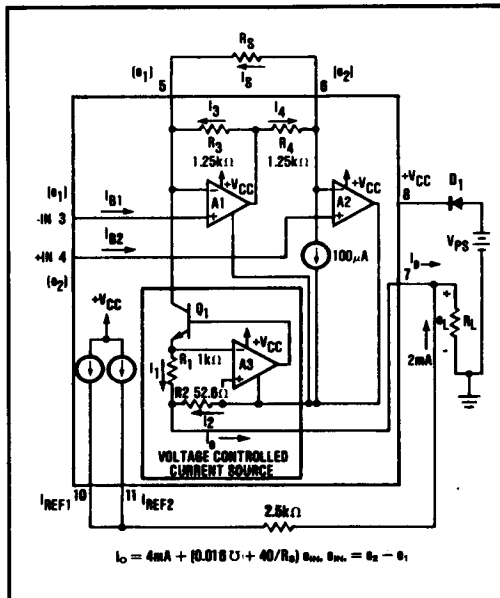

FIGURE 1. Simplified Schematic of the XTR100.
A simplified schematic of the XTR100 is shown in Figure 1. Basically the amplifiers,  $A_1$  and  $A_2$ , act as an instrumentation amplifier controlling a current source,  $A_3$  and  $Q_1$ . Operation is determined by an internal feedback loop.  $e_1$  applied to pin 3 will also appear at pin 5 and similarly  $e_2$  will appear at pin 6. Therefore the current in  $R_s$ , the span setting resistor, will be  $I_s = (e_2 - e_1)/R_s = e_{IN}/R_s$ . This current combines with the current,  $I_3$ , to form  $I_1$ . The circuit is configured such that  $I_2$  is 19 times  $I_1$ . From this point the derivation of the transfer function is straightforward but lengthy. The result is shown in Figure 1.
7. It is recommended that a reverse polarity protection diode ( $D_1$  in Figure 1) be used. This will prevent damage to the XTR100 caused by momentary (e.g., transient) or long term application of the wrong polarity of voltage between pins 7 and 8.